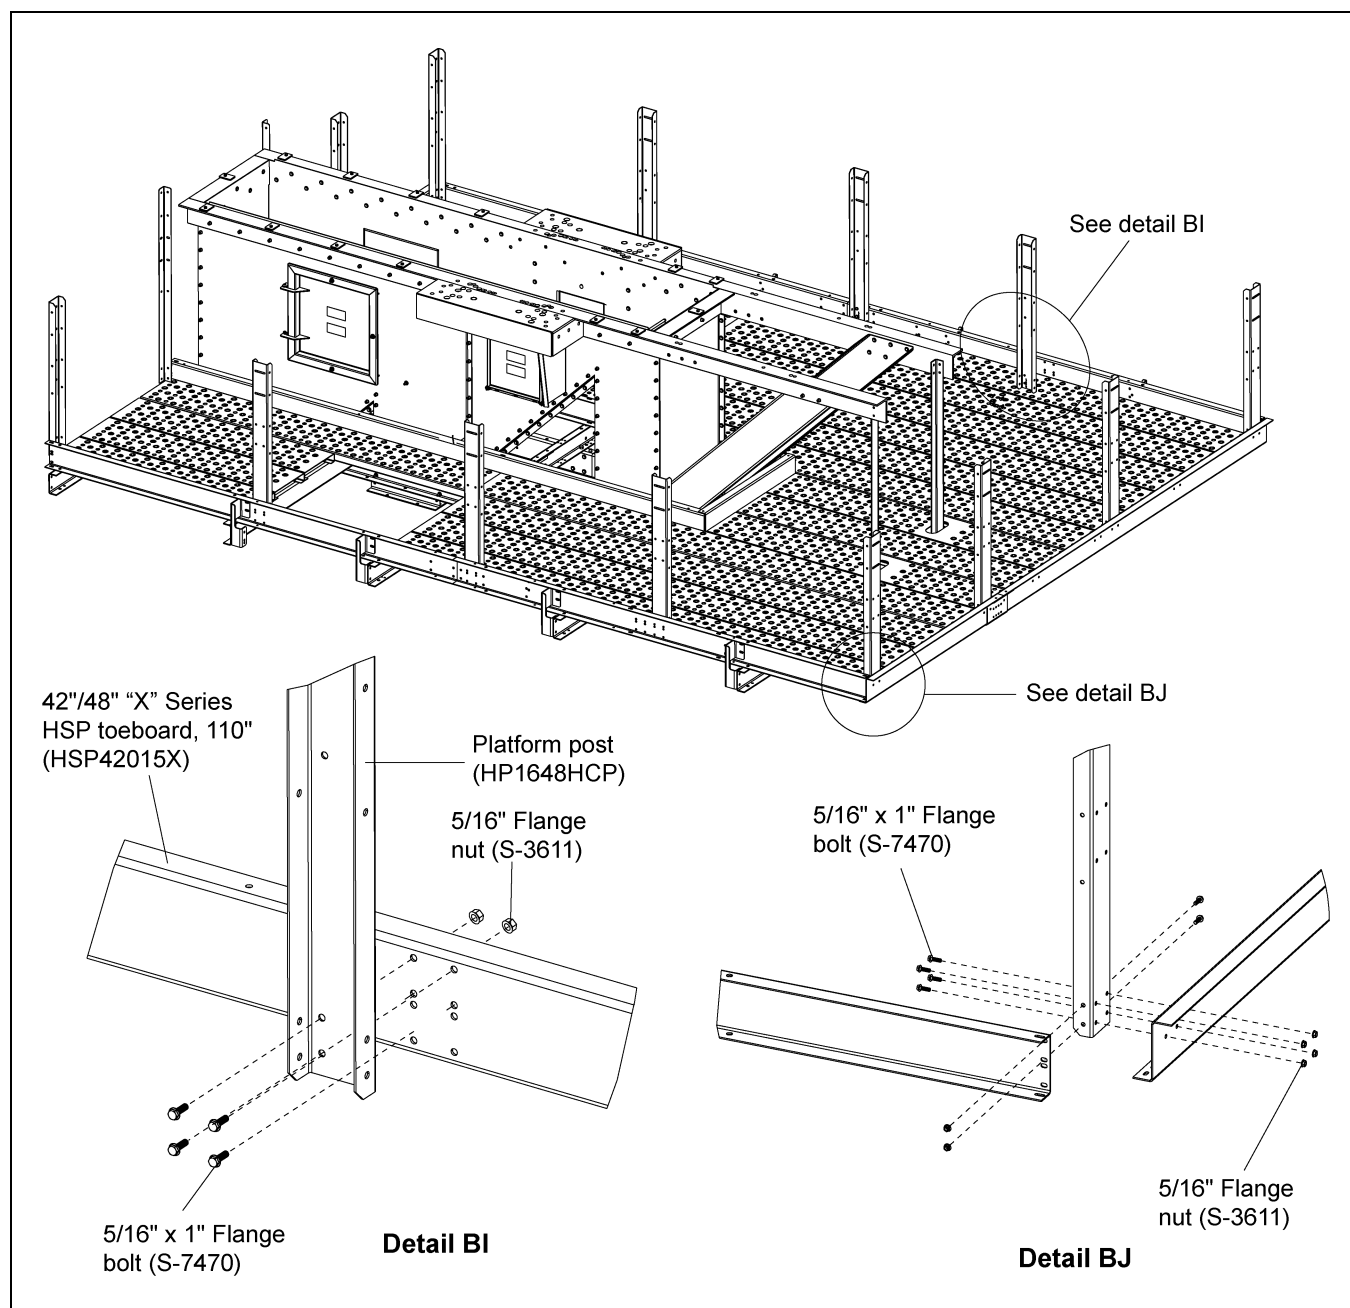

Figure 9Q
1. Install platform post to the "Z" toe boards with the flat side to the toe board spacing them as shown in Figure 9Q.
3. Fasten corner posts to toe boards using six 5/16" x 1" flange bolts (S-7470) and 5/16" flange nuts (S-3611). (See Figure 9Q.)